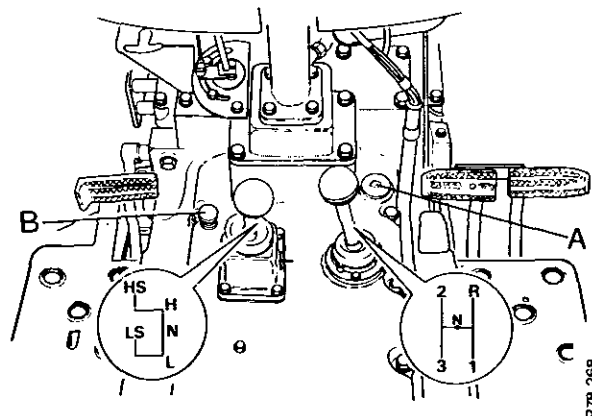

FIGURE 38. TRACTOR WITHOUT CAB
2. On tractors without a cab a dipstick is installed in the gearbox cover. See Figure 38 item B. The oil level must be between the two marks on the bottom of the dipstick. Add oil through the filler plug on the right-hand side of the cover if necessary.